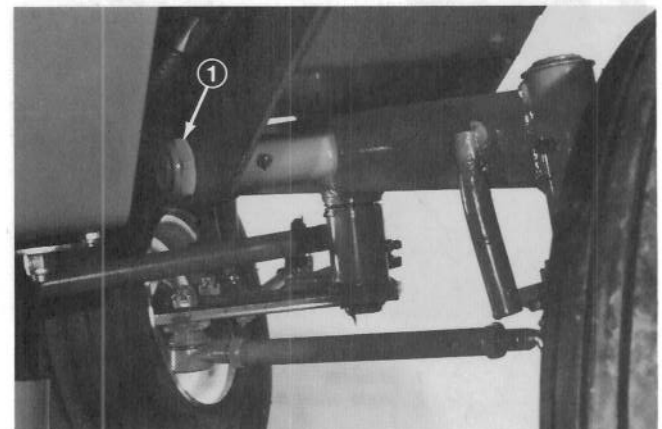

Figure 40
2. Remove large locknut from end of rear axle pin (Fig. 40).
10. Install large locknut on end of axle pin (Fig. 40). Tighten locknut until all forward and backward movement of the axle is eliminated. However, the axle must still pivot freely.
13. Install large locknut on end of axle pin (Fig. 40). Tighten locknut until all forward and backward movement of the axle is eliminated. However, the axle must still pivot freely.